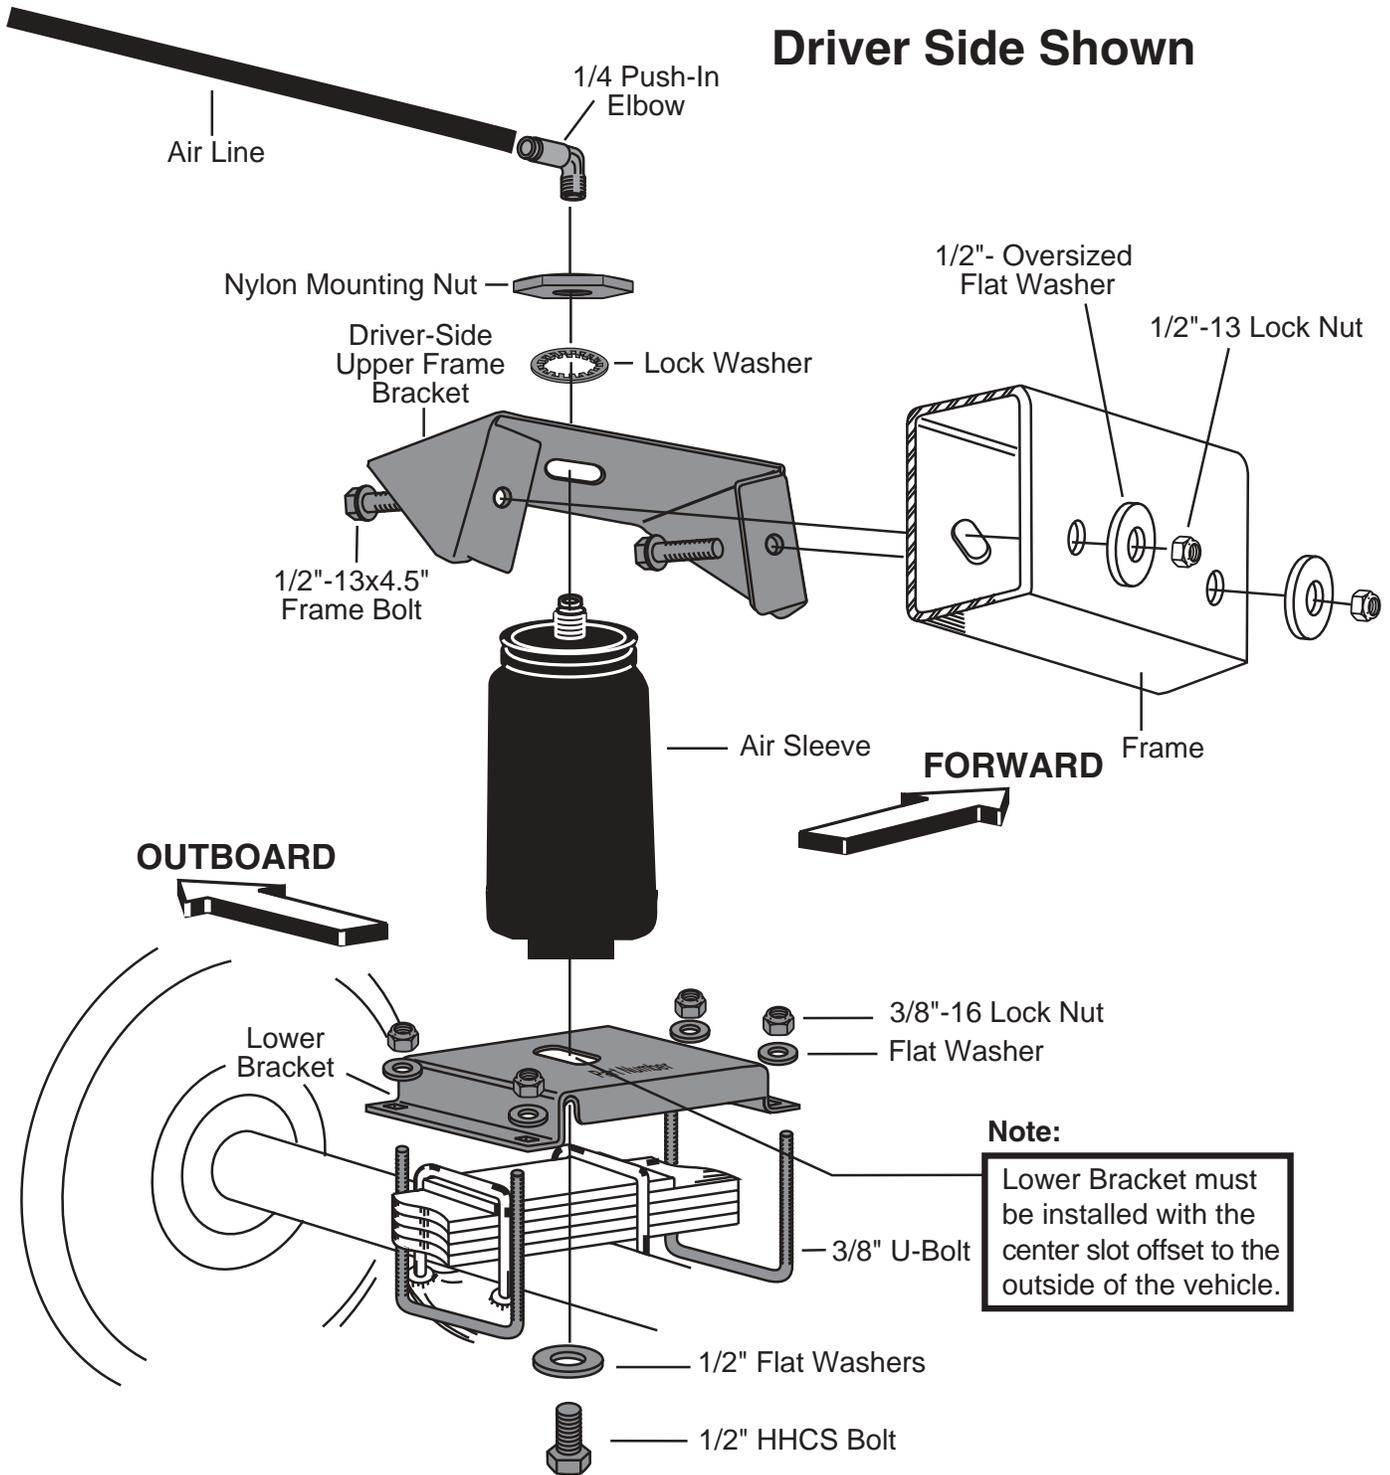
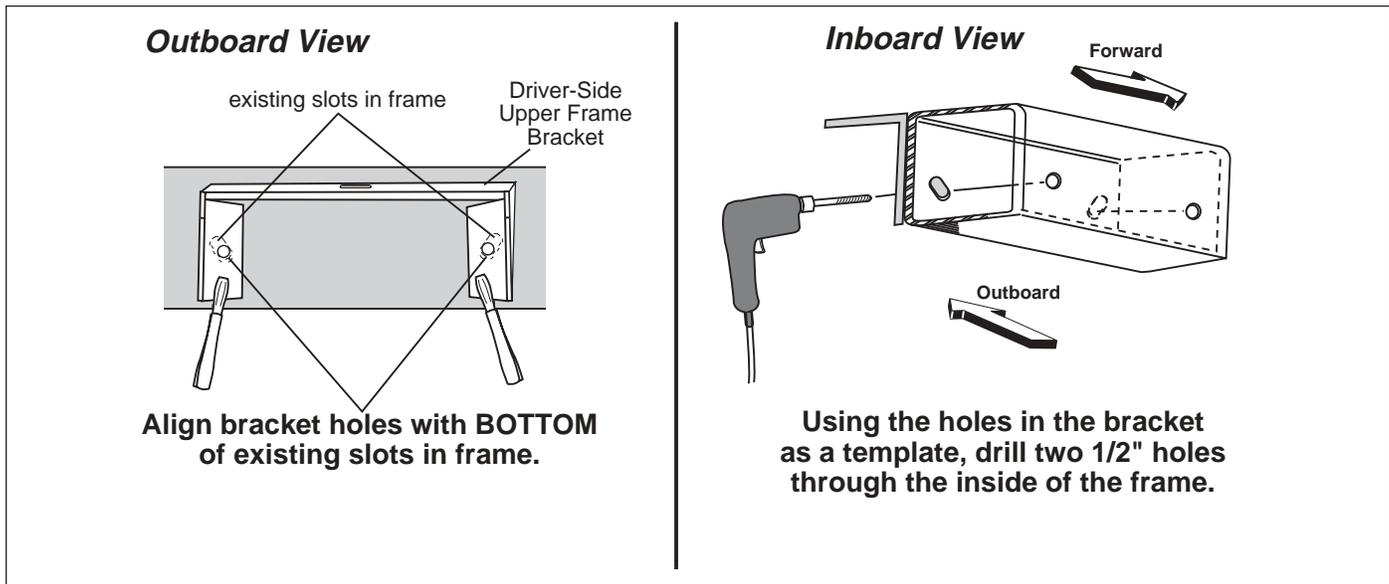

Figure 1
Figure 2
1. Clamp the driver-side upper bracket to the frame rail so that the holes in the bracket line up with the bottom of the slots in the frame (Figure 2). **NOTE - UPPER BRACKETS ARE LEFT AND RIGHT SIDE SPECIFIC.** Using the upper bracket as a template, drill a 1/2" hole through the inside framerail. Install one of the mounting bolts and **LOOSELY** attach the oversized flat washer and locknut. Now drill a 1/2" hole at the **other mounting hole** location. Install the remaining hardware and tighten securely (Figure 1). **DO NOT OVERTIGHTEN** the frame bolts.
2. Set the lower bracket on the leaf spring above the axle and attach using the supplied U-bolts, flat washers, and nyloc nuts (Figure 1). Tighten securely. **MAKE SURE THE SLOT IS OFFSET** to the outside of the vehicle.
5. Attach the air spring to the lower bracket with the 1/2" washer and lower mounting bolt. **LEAVE LOOSE** for later adjustment (Figure 1).
6. Now install the nylon nut and lock washer onto the upper thread post of the air spring. **LEAVE LOOSE** for final adjustment (Figure 1).